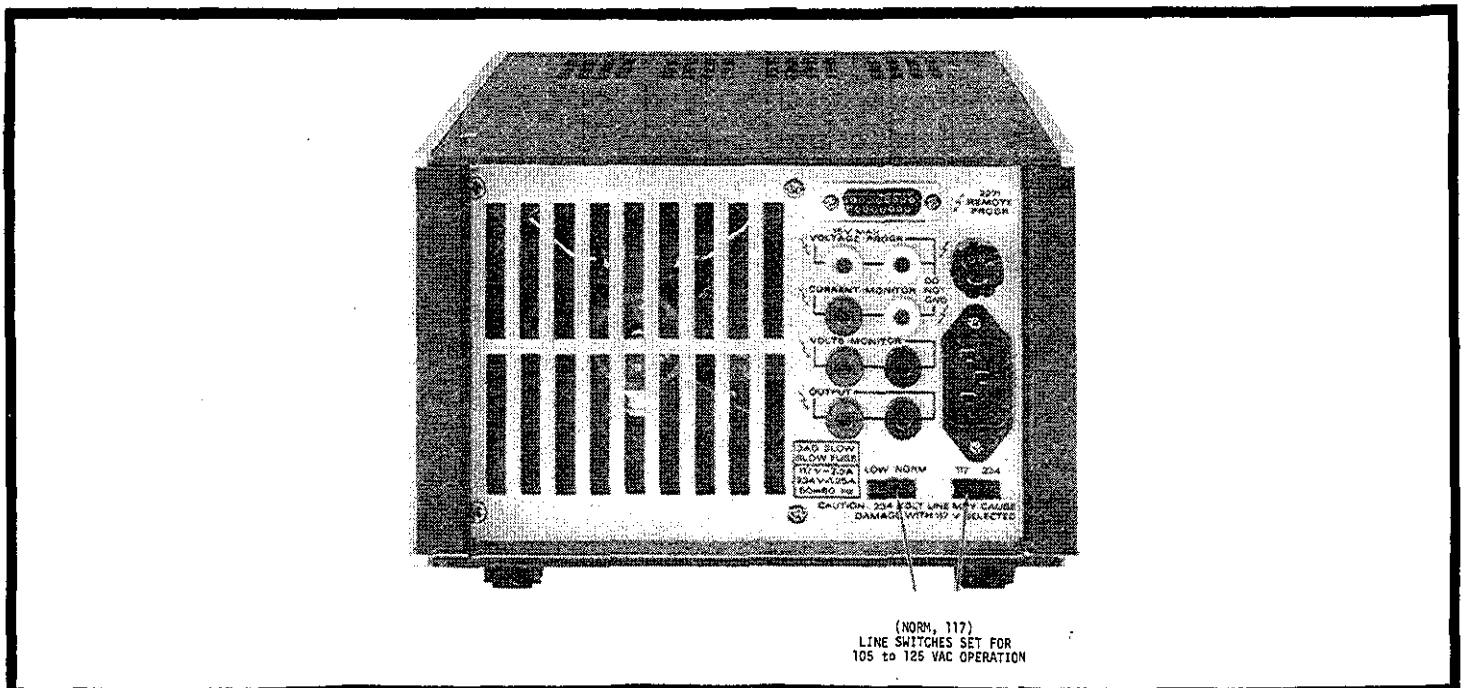

FIGURE 2. Rear Panel Showing Line Switches.
**a. How to Set Line Switches.** The Model 227 has two rear panel line switches which are used to select line voltage ranges of 90-110V, 105-125V, 195-235V, or 210-250V as shown in Figure 2. The line switches are identified as 117/234V (S303) and LOW/NORM (S302). Once the line voltage to be used has been determined, then the line voltage range should be selected from the four ranges available on the Model 227. For example, when the line voltage to be used is within the range from 105 to 125 volts, then the line switches should be set to "117V" and "NORM" positions. If the line voltage to be used is within either of two overlapping ranges, such as 107 volts, then either range may be selected (117V, LOW, or 117V NORM, for this particular example). Line voltages which are not covered by any one of the four ranges require an appropriate step-up or step-down transformer.
**b. Line Fuse Requirements.** The Model 227 uses a 2-1/2A 3AG slo-blo fuse for the range 90-125V and a 1-1/4A line fuse for the range 195-250V. The Line Fuse is located on rear panel as shown in Figure 2.